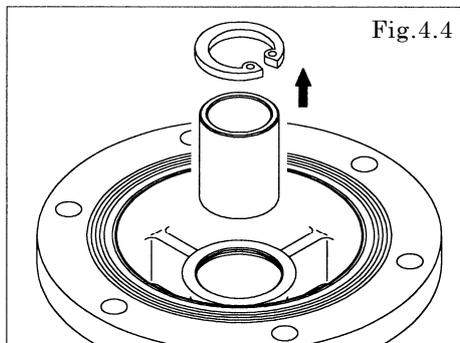

Fig. 4.4
- Remove the C type snap ring, and remove the throat bearing from the air chamber. [Fig. 4.4]